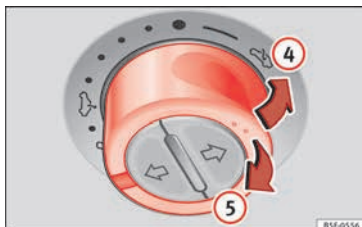

Fig. 14 On the interior roof lining: press the button and pull on it to raise and lower the sunroof.
- To tilt open: Push the switch to position » **Fig. 14** ④. For an intermediate position, hold down the switch until you reach the desired position.
- Lowering: Pull the switch to position » **Fig. 14** ⑤. For an intermediate position, hold down the switch until you reach the desired position.